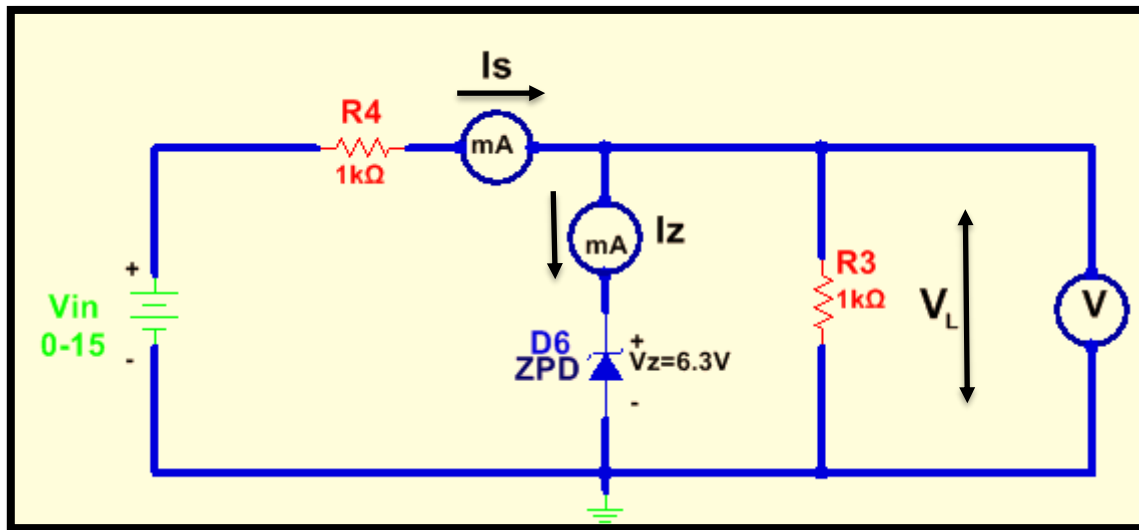

Figure 9: Practical Circuit for Zener Diode Voltage Regulator with Variable Input Voltage
- Connect the voltage regulator circuit shown in Fig.9, and vary the input voltage in several steps from 0 to 15V as shown in Table 3. Record  $V_L$ ,  $I_S$ ,  $I_Z$ , and  $I_L$  where  $I_L = I_S - I_Z$ .
Table 3: Recorded Data for the Voltage Regulator Circuit of Figure 9
6. Plot the relation between  $V_L$  and  $V_{in}$  for the voltage regulator circuit in Fig.9, and comment on the resulting sketch. From this sketch, determine the minimum value of input voltage required to turn-on the zener diode.
7. Calculate the theoretical minimum value of  $V_{in}$  required to turn-on the zener diode in the voltage regulator circuit of Fig.9. Determine also the maximum permissible value of  $V_{in}$  knowing that the maximum DC power dissipation of the PZD zener diode is 0.5W.